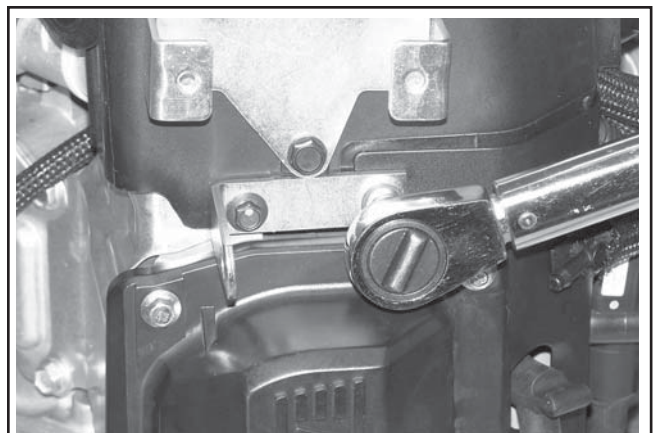

Figure 10-56. Tightening Outer Baffle Screws.
2. Position the outer baffles and secure using the four M6 hex flange screws. Install two M6 screws (20 mm long) into the intake port side of the cylinder heads, including any lifting strap. Install two M6 screws (16 mm long) into the exhaust port side of the cylinder head. Install the two short M5 screws (10 mm long) in the upper mounting holes of the outer baffles (into the backing plate). See Figures 10-56 and 10-57. Be sure any leads are routed out through the proper offsets or notches, so they will not be pinched between the blower housing and baffles.